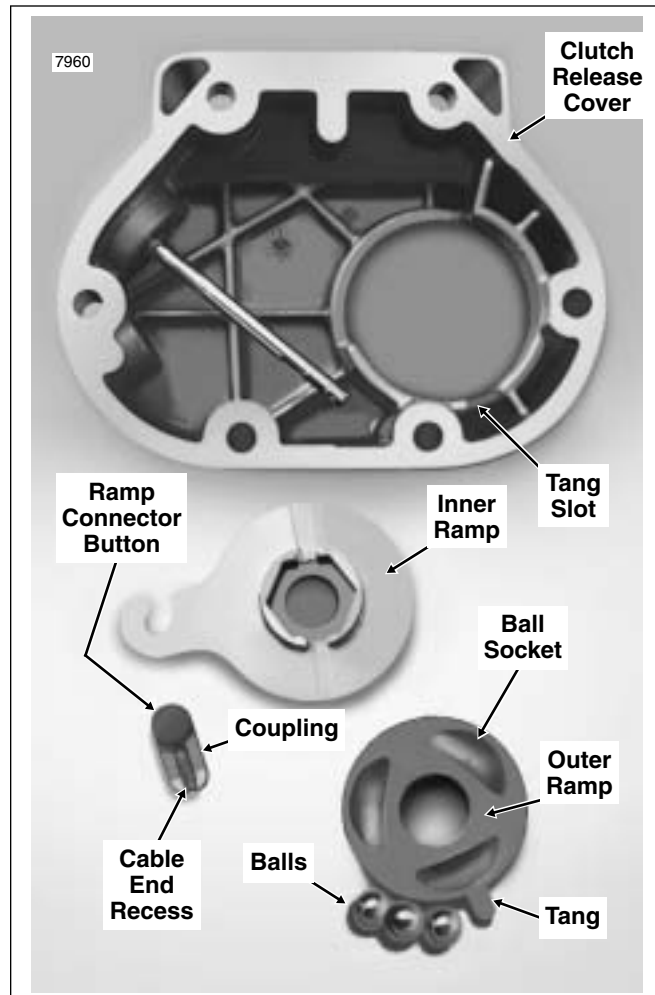

Figure 7-14. Clutch Release Cover Assembly
7. See Figure 7-14. Lift inner ramp out of clutch release cover. Turn the inner ramp over so that ball sockets are facing outboard. Remove hook of ramp from button on coupling. Remove coupling from clutch cable end.
5. See Figure 7-14. Check the recess in the clutch release cover casting where the inner and outer ramps are retained. There should be no wear/lips worn into the bore that would catch the ramps and cock them, causing improper clutch adjustment.